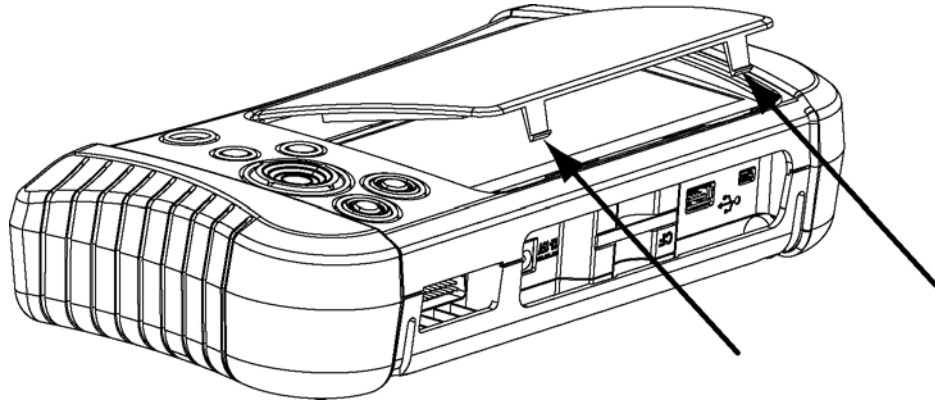

Figure 6-1 *Display window lock tabs.*
2. Hold the tool steady and depress the two lock tabs at the top of the window with your fingertips to release them (Figure 6-1).